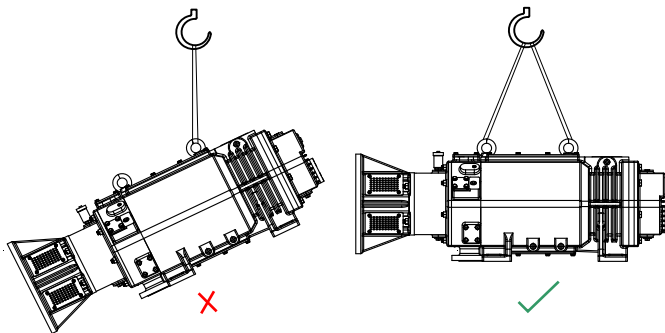

Fig. 1 : Careless lifting of screw pumps may be harmful to pump operation & workers.
- (a) Take care when moving the pump. Rough treatment of lifting in an unsuitable way may cause permanent damage. Pump should be lifted through the lifting point (Eye bolts) provided on it. The safe lifting method are illustrated bellow (shown in fig.1).